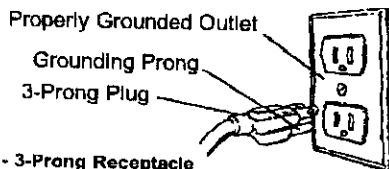

Figure 14 - 3-Prong Receptacle
Refer to Figures 14, 15 and 16, pages 6 and 7.
- Grounding plug should be plugged directly into a properly installed and grounded 3-prong grounding-type receptacle, as shown (Figure 14).